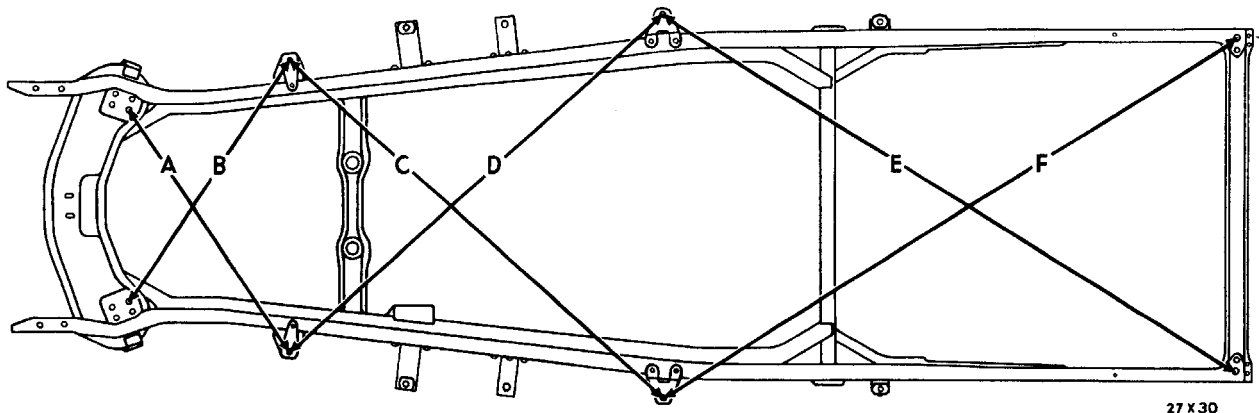

Fig. 2—Frame Diagonal Measurements
Figure 2 shows a few of the various diagonal measurements that may be taken to check the "squareness" of the frame. Diagonal measuring will quickly determine which section of the frame is bent and where force should be applied to restore correct alignment.
To properly check a frame for alignment, diagonal measuring should be performed with the greatest of accuracy and care. When the body is removed, the frame may be easily checked for alignment by measuring diagonals shown in Figure 2 with trammels or steel tape and checking dimensions given in Figure 1. Measurements may
- (1) Place the car on a level floor.
- (2) Attach the line of a plumb-bob to the center of one of the rear bolts. The plumb-bob should be suspended slightly above the floor. When the plumb-bob comes to rest, mark the floor directly underneath it.
- (3) Then using the plumb-bob mark the floor directly underneath the center of the other body bolts shown in Figure 2. The marks made on the floor will represent various points of the frame to be checked diagonally.
- (4) Move the car away so that the distance between the marks on the floor can be measured.
- (5) Measure the distance between the points connected by line "A," in Figure 2. This distance should agree within  $\frac{1}{4}$  in. with the distance between the points connected by line "B."
- (6) The distance between points connected by line "C" should agree within  $\frac{1}{4}$  in. with the distance between points connected by line "D."